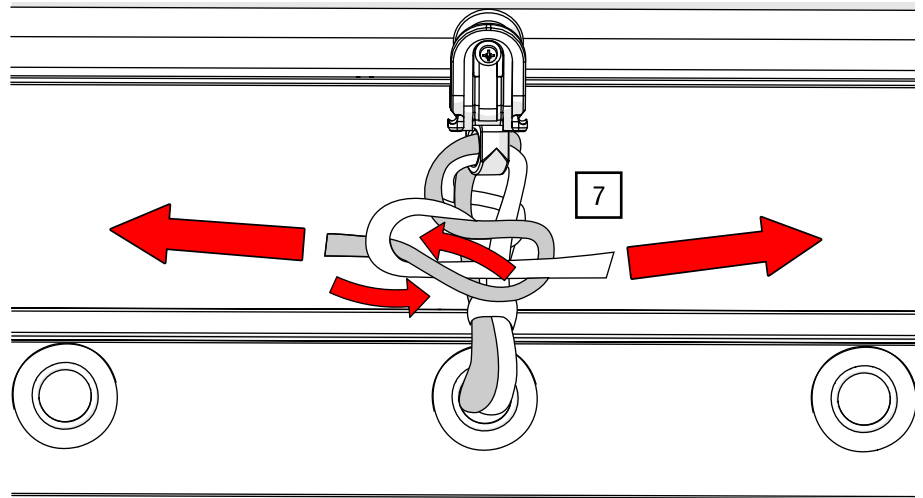

Fig. 95: Tie line – Tie second knot
7. Tie a second knot over the first one and pull it tight (see Fig. 95).